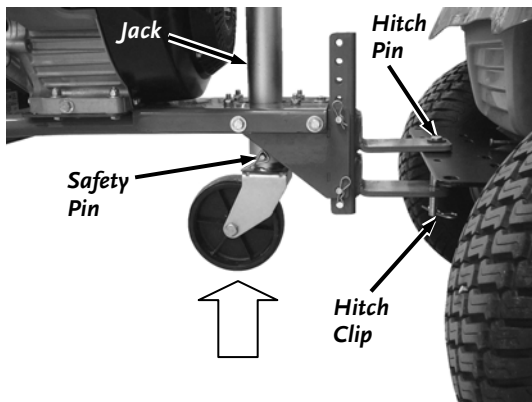

Figure 19
4. Move the Leaf System into position on the Lawn Mower Hitch and install the Hitch Pin and Hitch Clip to secure the Tongue to the Mower (**Figure 19**).